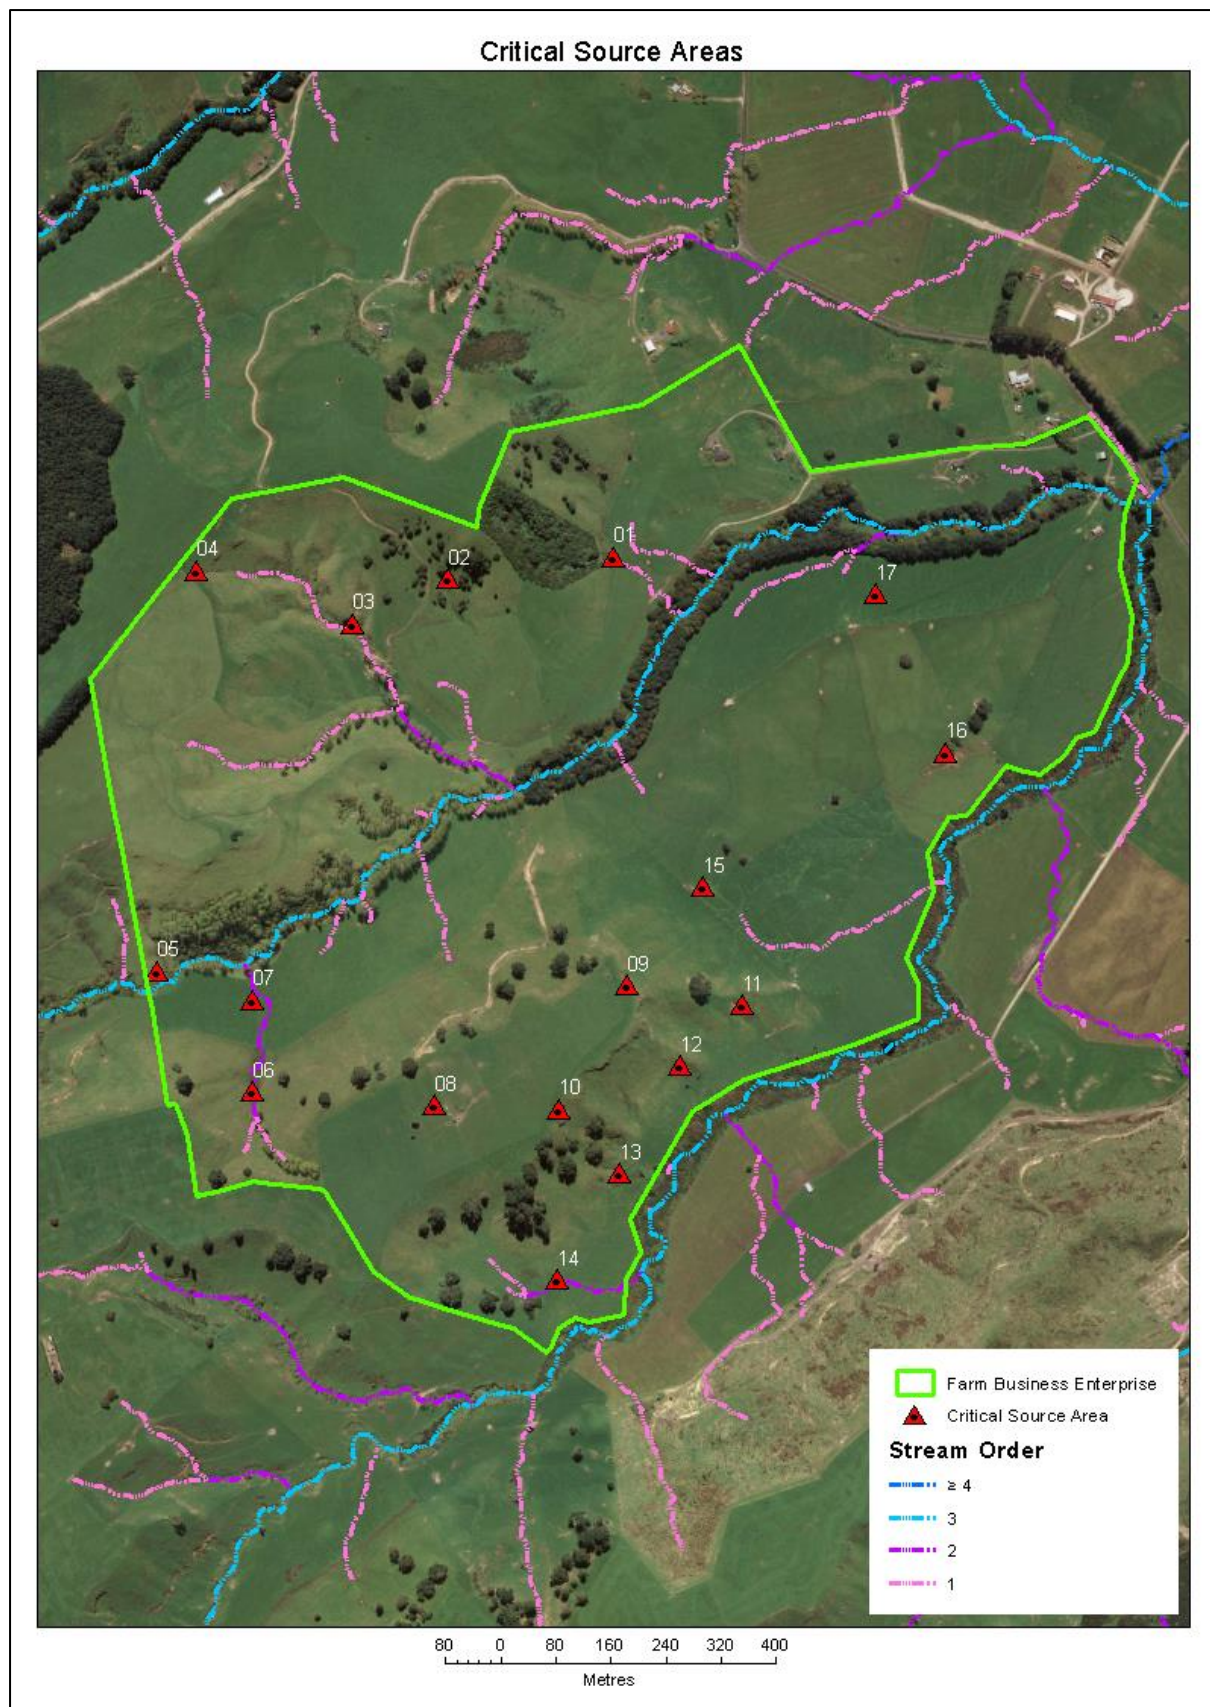

Figure 2: Map of CSAs for 238 Republican Road, Rerewhakaaitu
- 2.1. Critical Source Areas (CSAs) are identified below, and numbered consecutively on the Land Management Map (Figure 2). Accompanying photos are attached in Appendix 1 and labelled referring their relevant CSA.
5.7. The map of Critical Source Areas (CSA), discussed in section 9, is in Figure 2, overleaf: